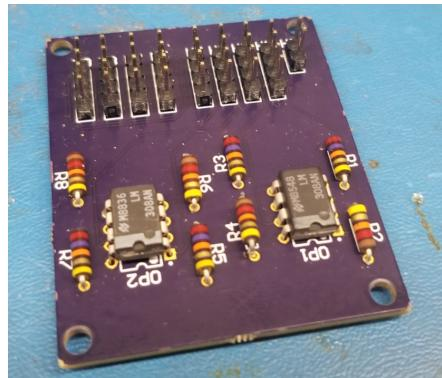

Figure 5: Voltage Divider step 1
2. Once soldered, the board should look like Figure 5: